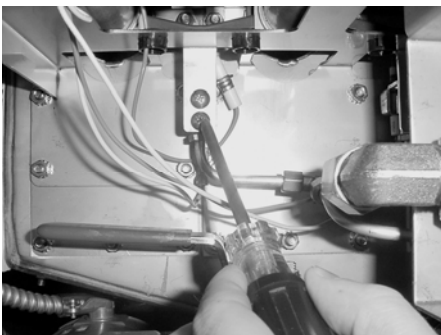

Figure 2-22
5. Remove the two screws securing the assembly and pull assembly from unit. Figure 2-22.